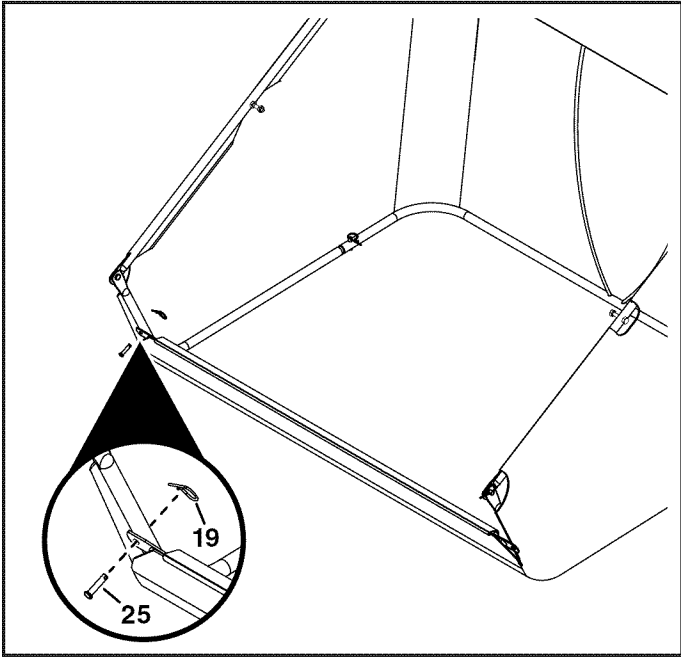

FIGURE 13
STEP 13: (SEE FIGURE 13)
- Secure the bag frame tube to the lower hopper tubes using two 1/4 x 1.11" clevis pins (25) and small hairpin cotters (19).